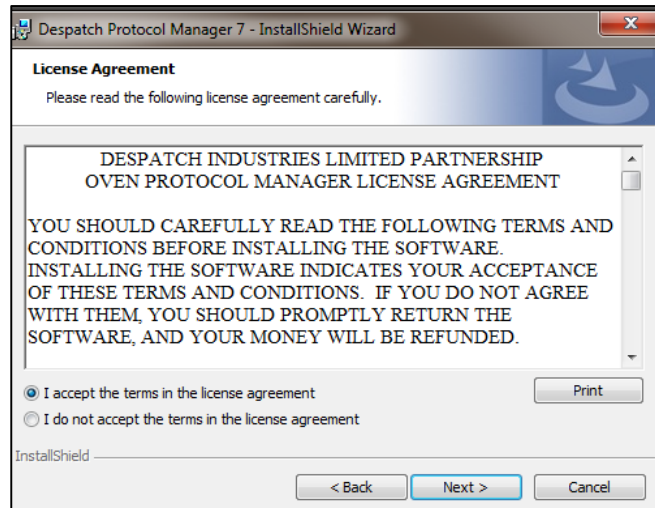

Figure 6. Accept License Agreement.
6. Click **Next** to display the License Agreement (Figure 6).